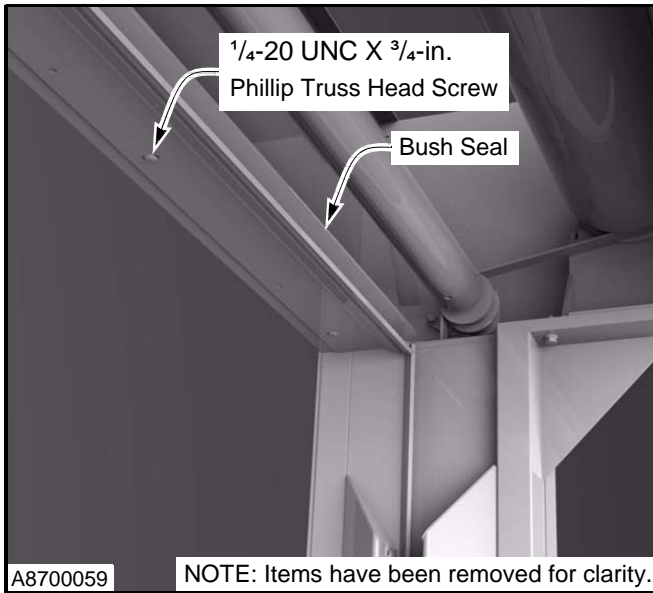

Figure 50
2. Remove the six $\frac{1}{4}$ -20 UNC x $\frac{3}{4}$ Phillip truss head screws. (See Figure 50)